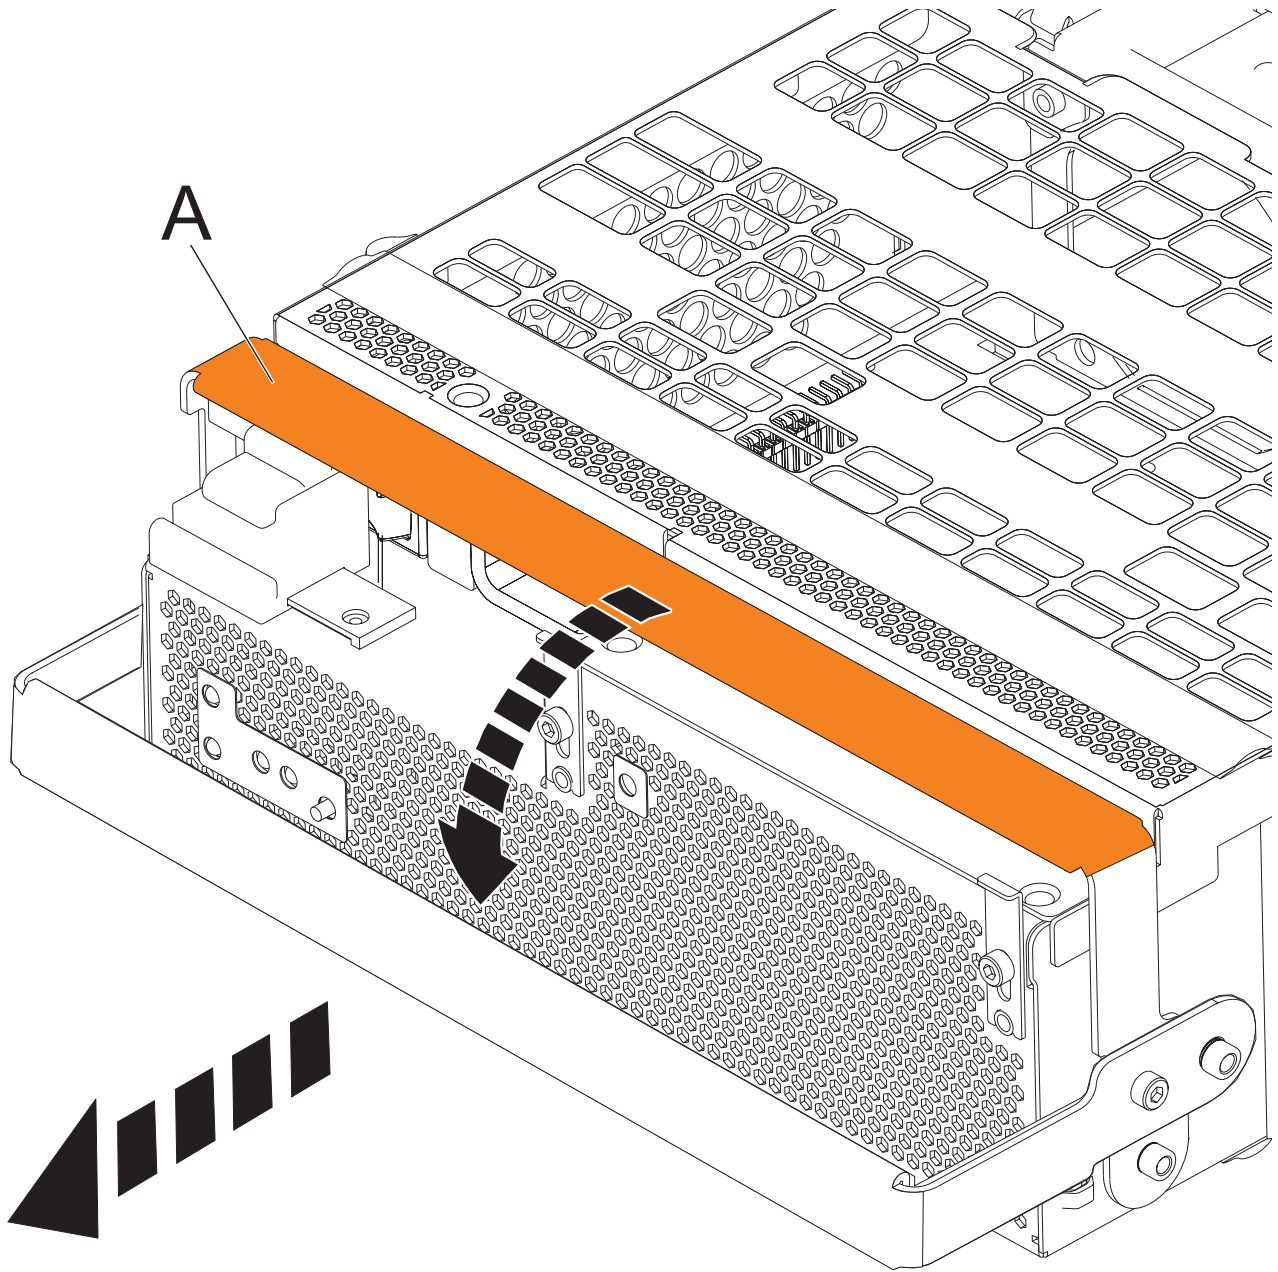

Figure 66. Remove the offline converter assemblies
- a. Pull the OCA handle (A) all the way down in the direction shown to unseat the OCA. See Figure 66 on page 83.